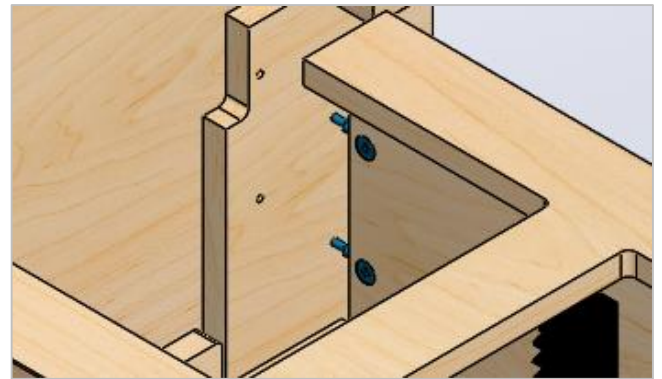

Figure 5
2. Install cam lock pins into pre-drilled holes around base cutout. Make sure the arrows on the pre-installed cams in the trough are pointed towards the ends. (Figure 5)